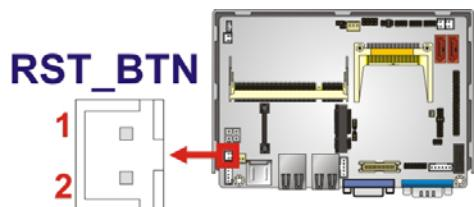

Figure 3-14: Reset Button Connector Location
**CN Location:** See Figure 3-14